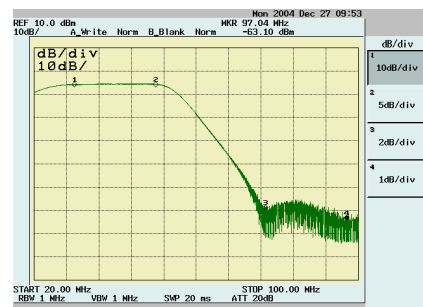

Fig. 6
- Check that the passing band of the section is similar as the one in Fig.6 and able to cover the whole IF band from **30MHz** to **50MHz**.